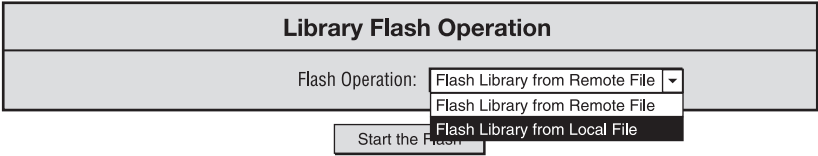

Figure 31 Updating firmware using the Remote Management Interface
4. Select **Flash Library from Remote File** or **Flash Library from Local File** (see Figure 31).